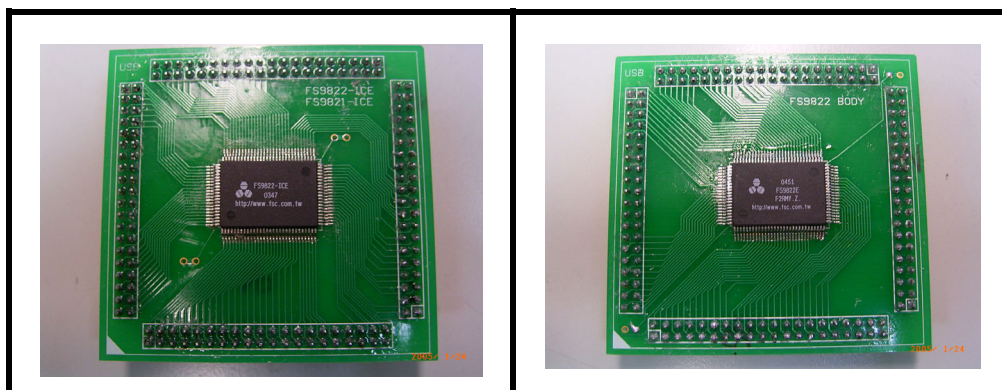

Figure 2.3 Transfer Board of ICE and OTP
- FS982X ICE and FS982X OTP can be developed and used with FS982X IDE, during which the corresponding Transfer Board shall be used, as shown in the Figure 2.3. For the Transfer Board circuitry, please refer to the enclosed Diagram 1, 2.